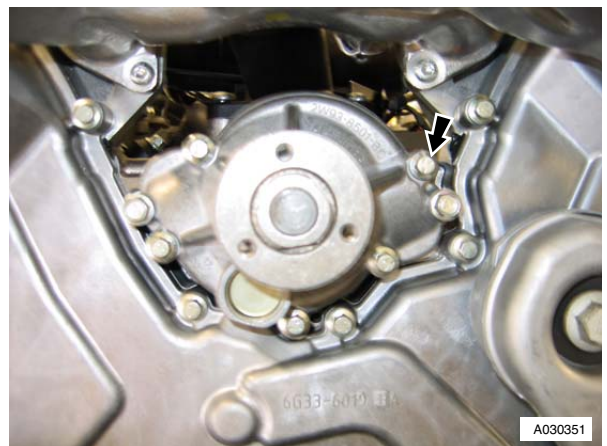

Figure 2
7. Remove pump (bolts x7) (refer to Figure 2).